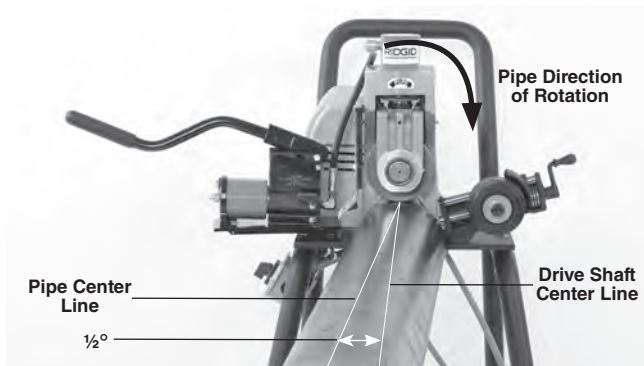

Figure 12 – Offsetting the Pipe $\frac{1}{2}^\circ$, (Exaggerated)
roll rotates in a clockwise direction matching the pipe rotation decal on the groover, *See Figure 12*. Have the machine serviced if it rotates in the wrong direction or if the foot switch does not control its stopping or starting.
7. Slightly offset the pipe and pipe stands approximately ½ degree (about 1" over at 10 feet from the roll groover) towards the operator. Proper alignment of the pipe and roll groover helps to ensure proper tracking of the pipe while grooving (See Figure 12). This is proper offset for grooving and works with the stabilizer.
- Slightly increase the offset of the pipe (increase from ½ degree to 1 degree) See *Figure 12*.